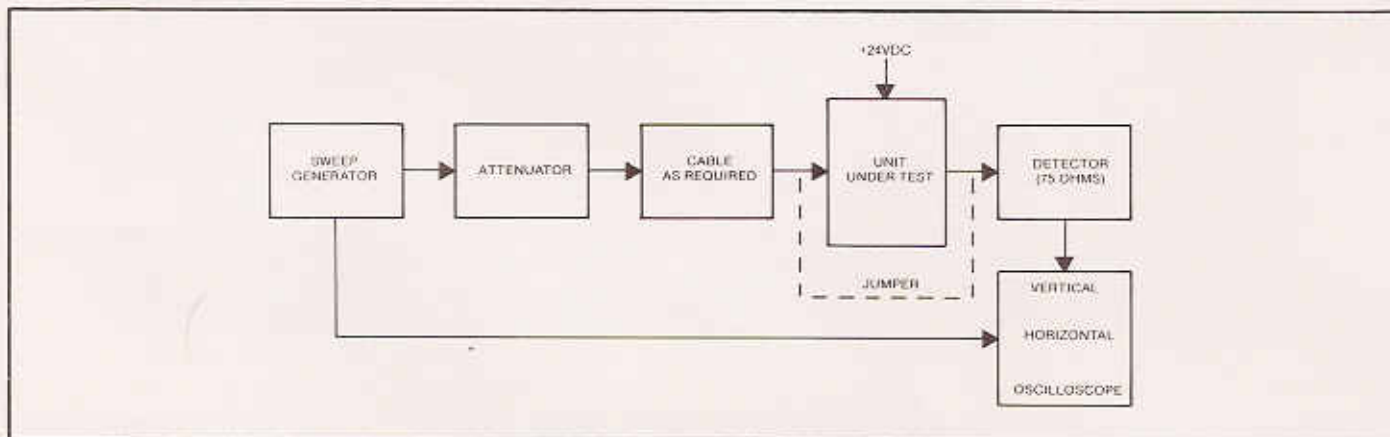

FIGURE 9. TEST SETUP
1. Connect equipment as shown in Figure 9. Use Jumper to establish setup reference (use 50 MHz for reference and test measurements). Terminate bridger output with 75 Ohms.